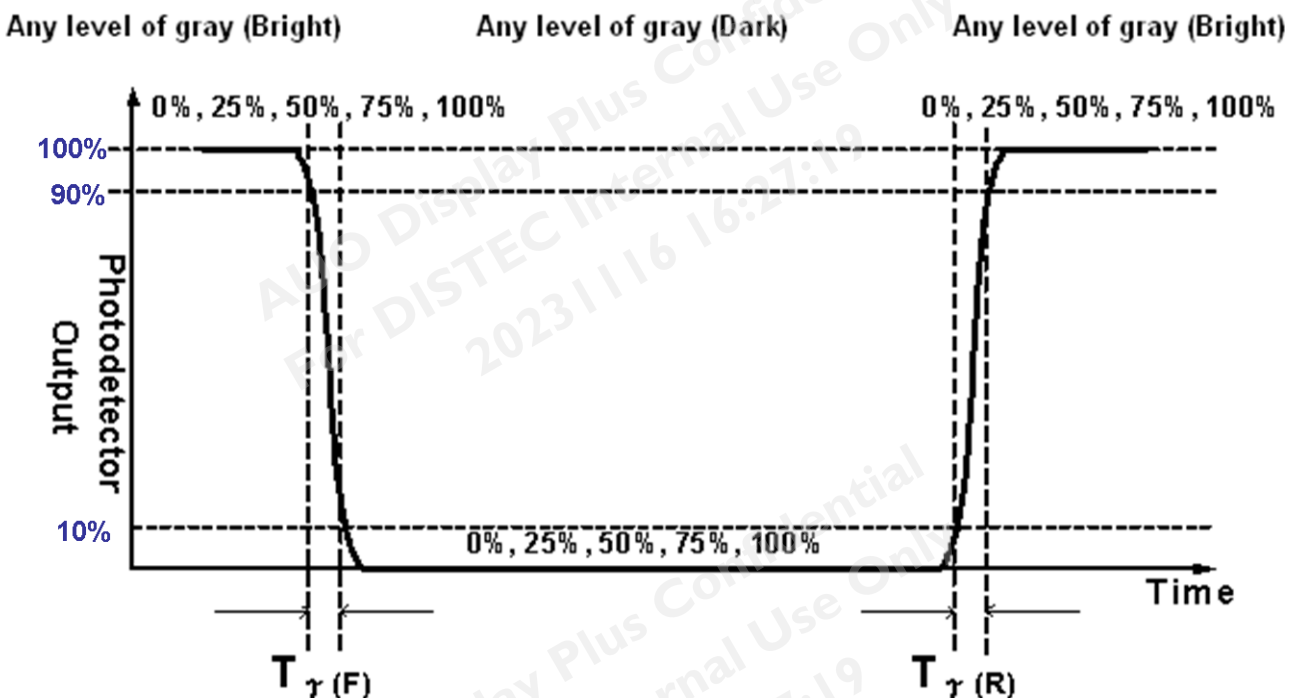

Fig. 2 Luminance
2. Surface luminance is luminance value at point 5 across the LCD surface 50cm from the surface with all pixels displaying white. From more information see **Fig. 2**. LED current I_F = typical value (without driver board), LED input $V_{DDB} = 24V$, I_{DDB} = Typical value (with driver board), $L_{WH} = L_{on5}$ where L_{on5} is the luminance with all pixels displaying white at center 5 location.